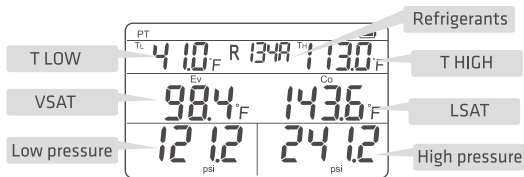

FIG.1 Diagram of Saturation Temperature Sub Mode
2. Press the power button to turn on, and enter the main interface [FIG.1].
1. Read the data after refrigerant setting is done, the interface [FIG.1] displays the measured pressure, temperature, saturation temperature and evaporation temperature at high and low pressure sides.